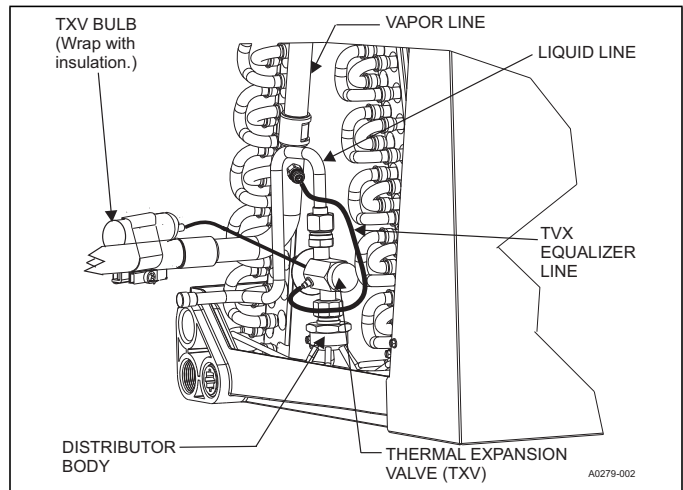

FIGURE 6: TXV Bulb Installation
7. Install the TXV equalizer line onto the vapor line by hand tightening the 1/4" SAE coupling nut to the equalizer fitting, and apply an additional 1/3 turn to seal. See Figure 6.
9. Install the TXV bulb to the vapor line near the cabinet, using the bulb clamp(s) furnished with the TXV assembly. Ensure the bulb is making maximum contact. See Figures 6 and 7, and accomplish the following: